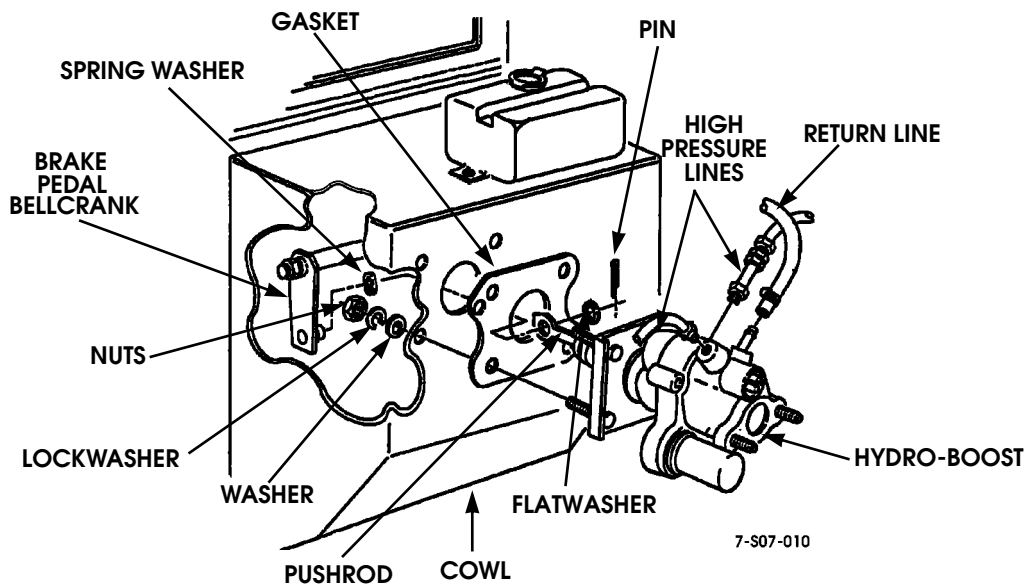

Figure 7-11: Hydro-boost Replacement Procedure
4. Disconnect two high pressure lines and one return line from hydro-boost (Figure 7-11).
1. Install gasket and hydro-boost on cowl with four washers, lockwashers, and nuts. Do not tighten nuts. (Figure 7-11).